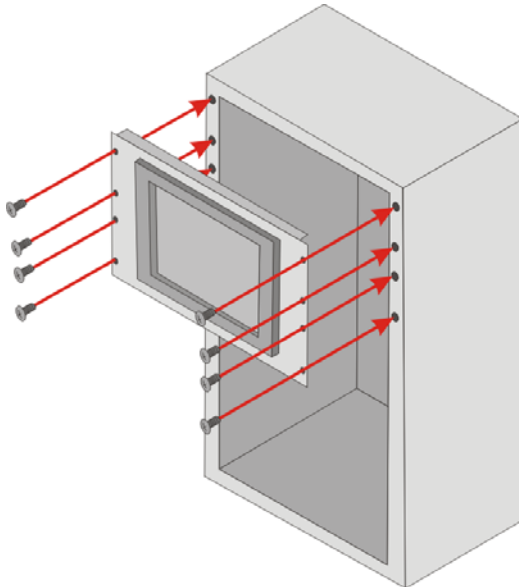

Figure 3-28: Install into a Rack/Cabinet
Step 5: Slide the PPC-F08B/F10B-BT with the attached rack/cabinet bracket into a rack or cabinet (**Figure 3-28**).
Step 6: Once the flat panel PC with the attached rack/cabinet bracket has been properly inserted into the rack or cabinet, secure the front of the rack/cabinet bracket to the front of the rack or cabinet (**Figure 3-28**).